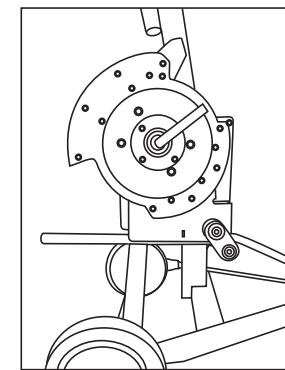

Fig 4
- e. Before rotating the MBCCH-1250 shoe, rotate the Conduit Roller (3) down by flipping the roller to allow access to lower roller.
- f. To rotate the MBCCH-1250 shoe, position the Handle Receiver (4) all the way forward and apply pressure to handle while manually turning the shoe until the 1" side of shoe is facing down (Fig. 4).
- e. Before rotating the MBCCH-1250 shoe, flip the Conduit Roller (3) up to allow access to upper roller.
3. To switch from the $\frac{3}{4}$ " Dual Bending Shoe (1) to the 1" side of Dual Bending Shoe (1) on RBCCH-1000.